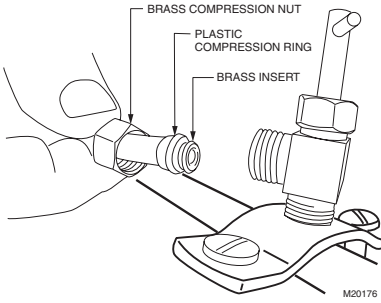

Fig. 9. Installing feed tubing.
3. Use 1/4 in. (6 mm) OD tubing and connect saddle valve to inlet side of the solenoid valve (see Fig. 9).